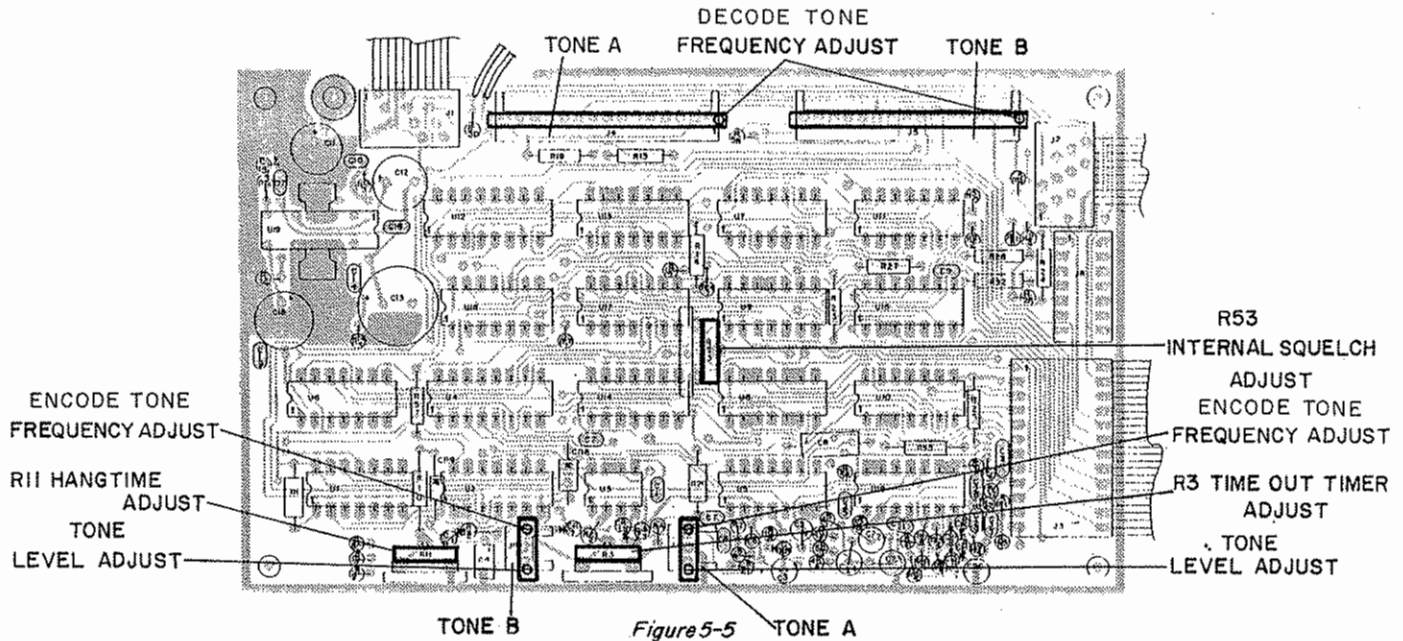

Figure 5-5
21. Switch to the "Repeat" mode and adjust the internal squelch (depicted in figure 5-5) as described in step 20. Unsquelched position is counterclockwise (turn control toward rear panel.)
- Preset the encoder single turn potentiometer, by turning the level adjustment (figure 5-5) for tone "A" or "B", to mid range.
- Key the transmitter via the microphone test fixture and adjust the multiturn potentiometer on the appropriate encoder (figure 5-5) for the required frequency \pm 0.1 Hz on the frequency counter.